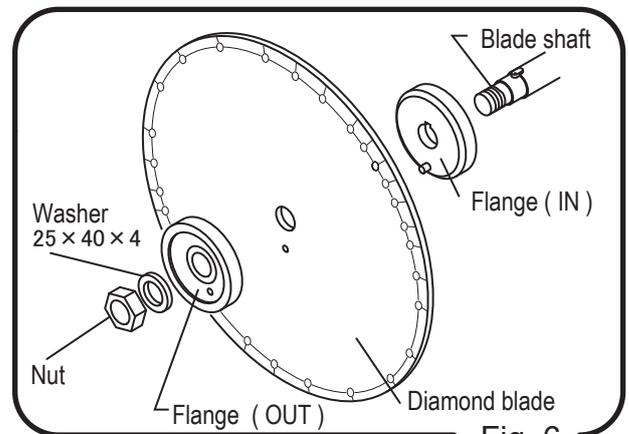

Fig. 6
Install Flange (IN), Diamond Blade and Flange (OUT) in such order to the blade shaft and tighten sufficiently with Nut (left hand thread). ( Fig. 6 )